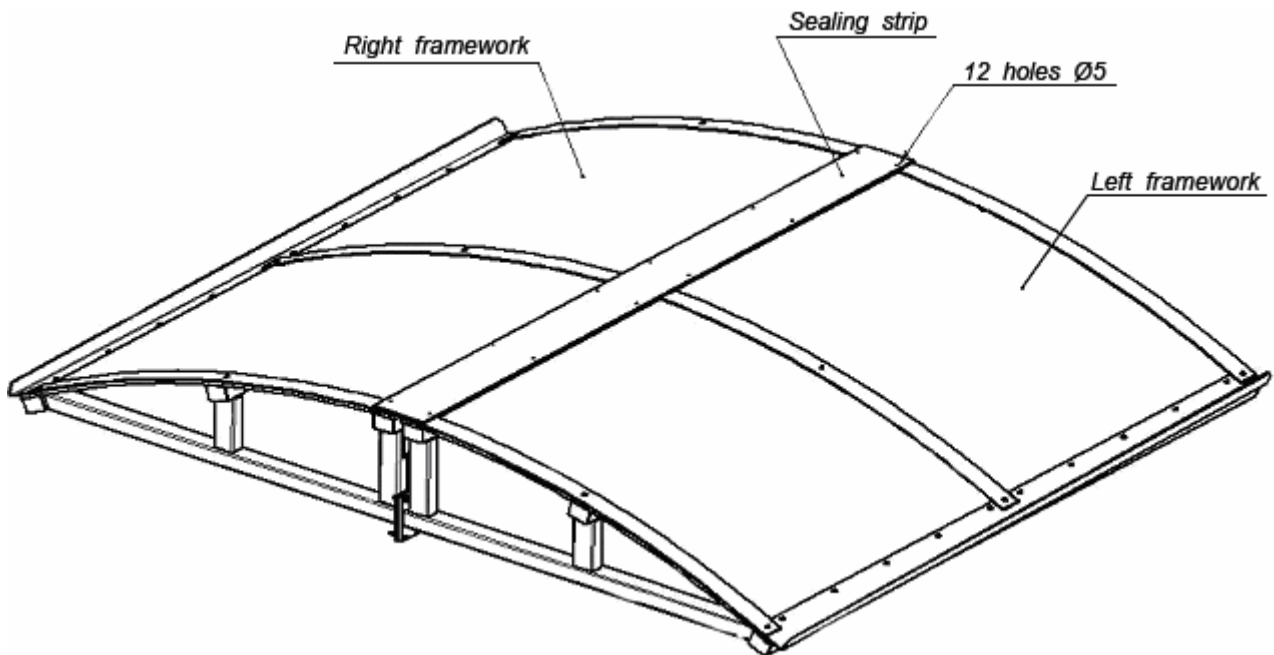

Figure. 6 Assembled roof
8.3.10 Lay the jointing strip along the joint line, the sealing element down. Drill 12 Ø3.5 mm holes 9 mm deep for the 4.2×16 self-tapping screw through the 12 Ø5 mm holes in the strip (Fig. 6). Fix the strip on the roof sections with the screws.